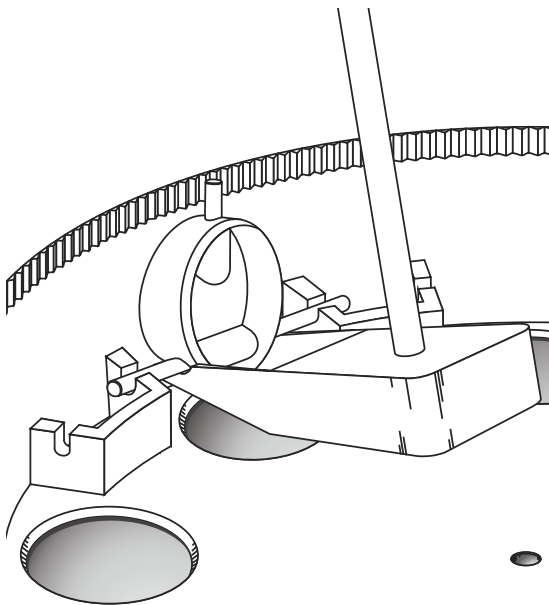

Figure 29
3. With the extractor tool, remove each T-valve assembly from the valve base. Raise the T-valve assembly in a vertical position and insert the extractor tool under the valve. Pry the assembly out of the pin seats by pulling the extractor tool rearward (Figure 29).